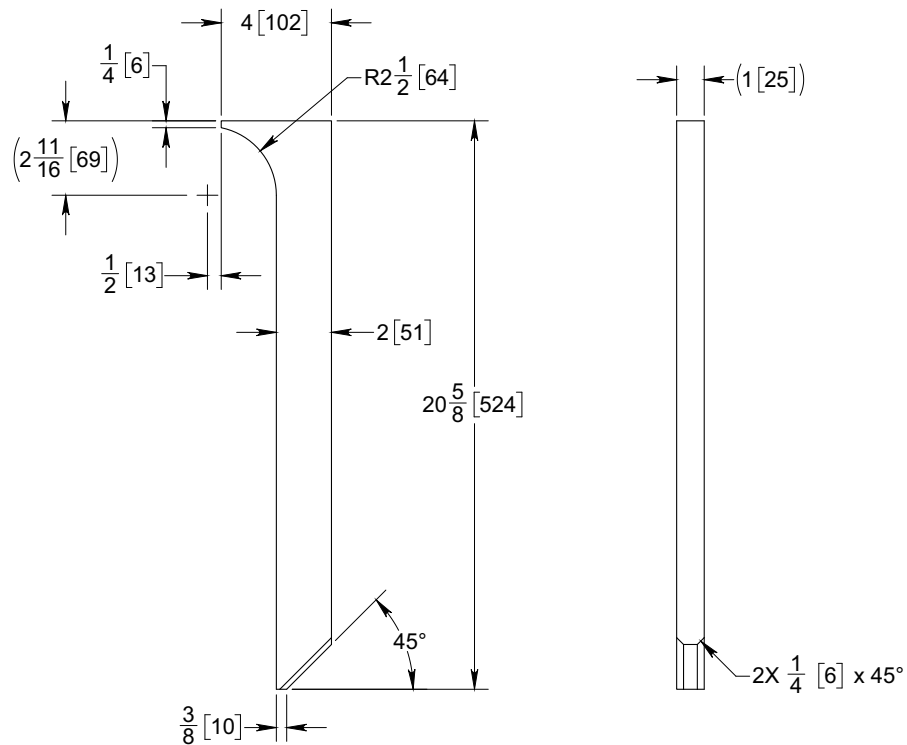

Figure 5: Plate P/N: DT27200-2
- Using ASTM A36 material, fabricate one (1) plate (item 3 on Table 1 on page 2) as indicated in Figure 5.